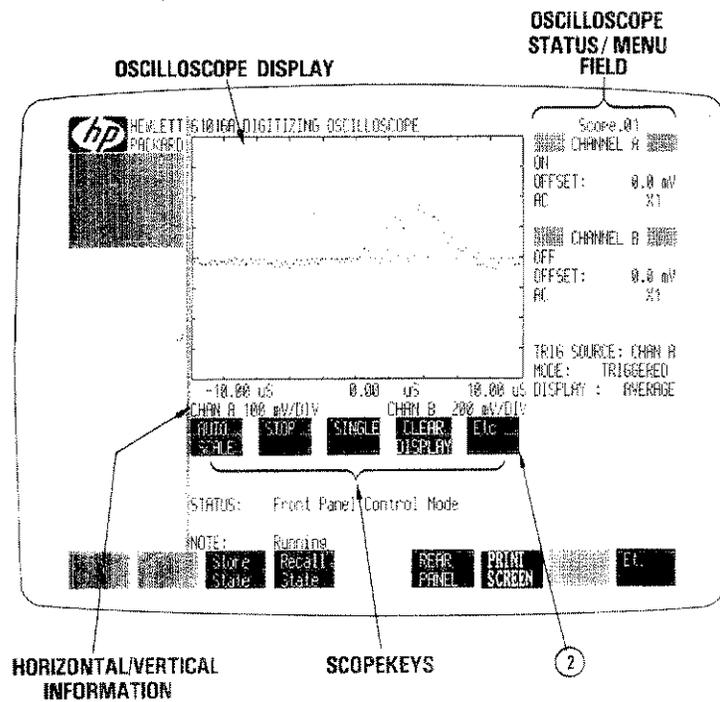
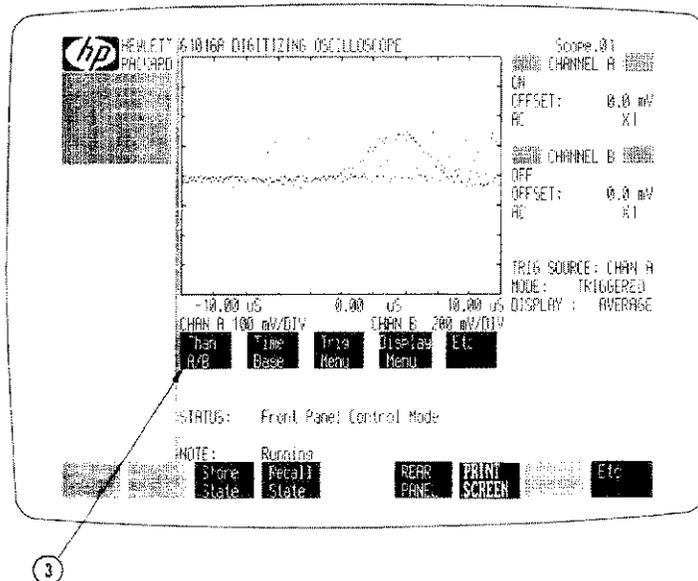

Figure 2-2. Oscilloscope, Front Panel View
Figure 2-3. Accessing a Level 2 Interactive Menu.
Step 2 - Once you select SCOPE.01, the SCOPE.01 area of the System View Window turns bright and your Oscilloscope appears in the Interactive Instrument Window (see Figure 2-2). That window has four fields unique to the Oscilloscope:
Step 3. The level 2 Scopekeys now appear in the Interactive Instrument Window (see Figure 2-3). These allow you to select the major Oscilloscope subsystems that must be properly configured to acquire and display a desired waveform. These Scopekeys give you access to interactive menu(s) displayed in the Oscilloscope Status/Menu field and allow you to make specific setup selections for your application. Point to and select the
Notice that you still have the Chan A/B Menu in the Menu/Status field. To choose another menu (Time Base, for example), select the Etc Scopekey twice. This advances you to the level 1 Scopekeys (Figure 2-2) and then to level 2 (Figure 2-3). Selecting the Etc Scopekey always advances you in the same direction; you cannot "back up" to the previous Scopekey level.
To gain access to the menus, select the appropriate Scopekey. Several Scopekeys allow you to access more than one menu; however, you can display only one menu at a time. You can quickly see if more than one menu is available in a Scopekey group by looking at the bottom of the menu field (see Figure 2-3). If there is a Cont Scopekey in the field, then there is more than one menu in that group. Otherwise, there is only one menu in the group. Selecting Cont steps to the next menu in the selected Scopekey group. Menu selection is limited to the selected group until you select another Scopekey or the STATUS scopekey.